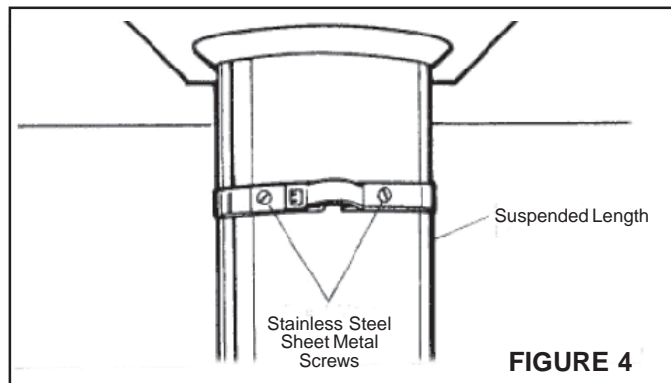

FIGURE 4
3. When a chimney section is suspended e.g. below a Cathedral Ceiling Support, the band(s) and the joints must be fastened using two (2) #6 x 1/2" stainless steel sheet metal screws (see Figure 4).